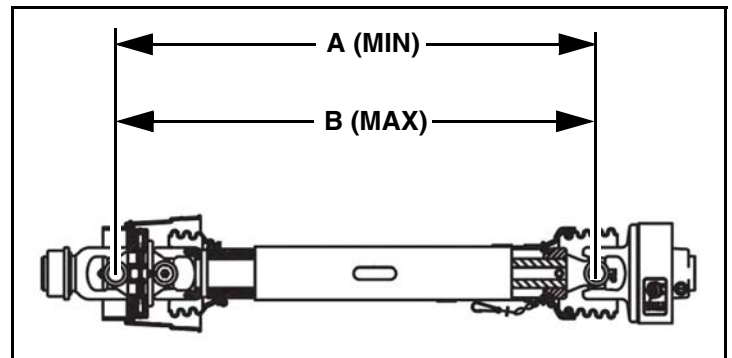

FIGURE 2. PTO DRIVELINE
WITH INITIAL HOOK-UP TO YOUR NEW MEYER SPREADER TEST PTO TRAVEL BY TURNING EQUIPMENT IN BOTH DIRECTIONS OBSERVING THE MINIMUM (A) AND MAXIMUM (B) TRAVEL DIMENSIONS AS SHOWN, FIGURE 2.